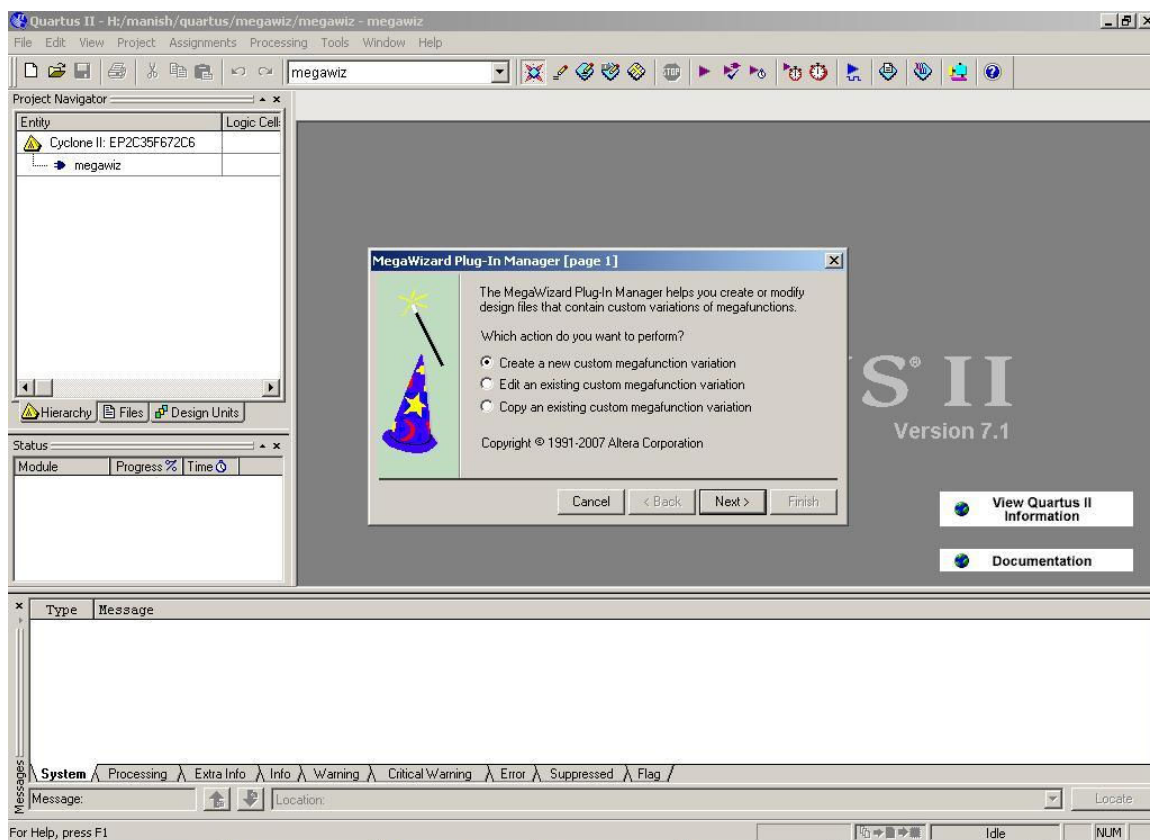

Fig. 1
1. To start creating the memory module, go to Tools -> MegaWizard Plug-In Manager. And click on "Create a new custom megafunction variation" as shown in Fig 1. Then click Next.